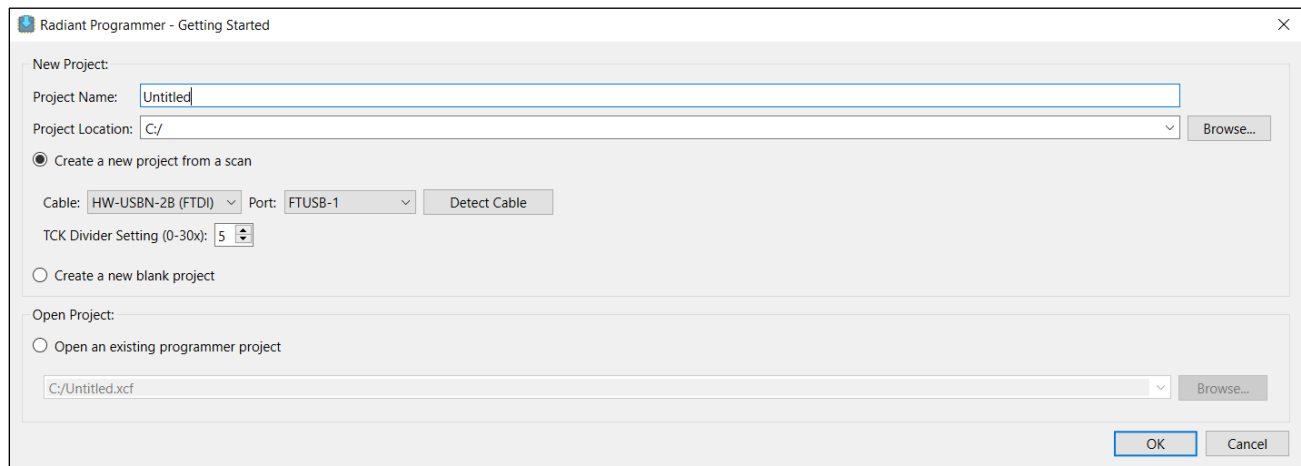
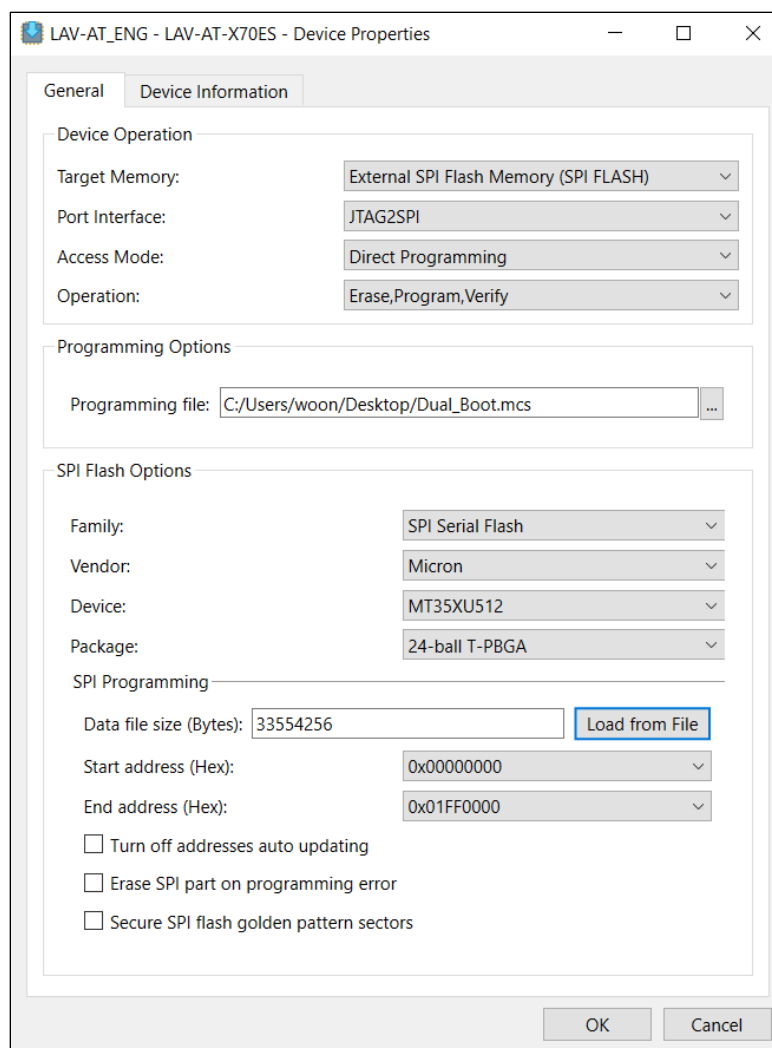

Figure 8.1. Radiant Programmer – Getting Started Window
Figure 8.3. Radiant Programmer – Device Properties
3. The Radiant Programmer – Getting Started window opens (Figure 8.1).
6. Set the **Device Properties** fields to the following (Figure 8.3):
Programming Dual-Boot, Ping-Pong Boot, or Multi-Boot Pattern into an External SPI Storage Device	- Updated section title and descriptions. - Rearranged and updated Figure 8.1. Radiant Programmer – Getting Started Window through Figure 8.3. Radiant Programmer – Device Properties. - Updated flash device used from WinBond to Micron. - Updated board to Avant-X Versa board.